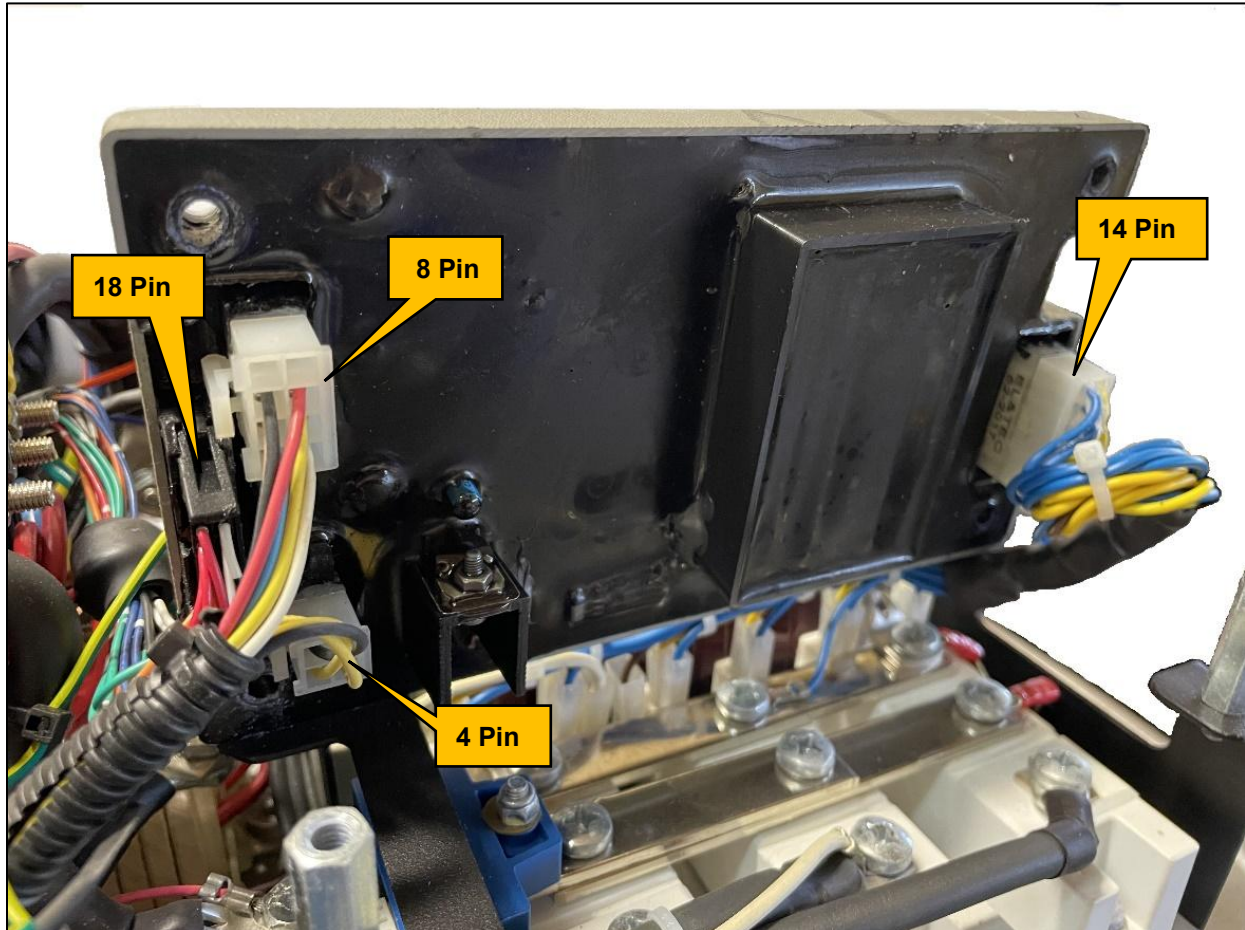

Figure 7
- ☐ Inspect the 4 connectors that mate to the dc control board (4pin, 8pin, 14pin, 18pin), confirming that they are fully engaged with the dc pc board and that the locking tabs & levers are engaged to hold the connectors firmly in place (Figure 7).